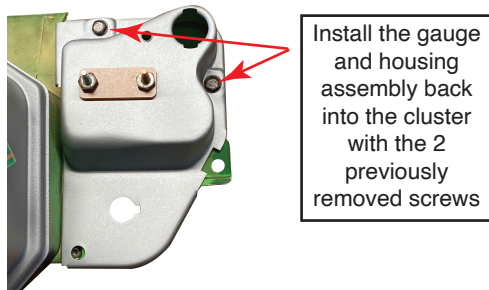

FIGURE 7
12. Install the completed gauge and mounting housing assembly back into the instrument cluster housing using the two screws removed earlier (See Figure 7).